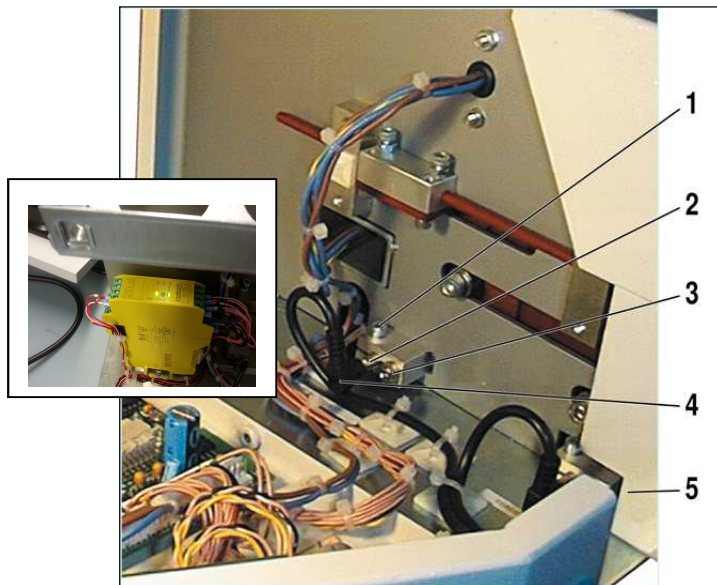

Fig. 4-12: Proximity Switch Mounting
7. Set the gap between the front of the proximity switch and the tab by loosening the lateral clamping screw (Figure 4.12.) and sliding the switch in or out.
8. If necessary, reposition switch mounting block to obtain correct setting by loosening the block clamping screws (Figure 4.12.).